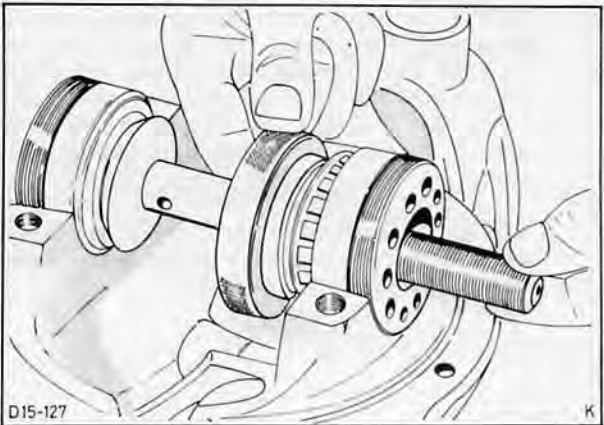

Fig. 118. Remove gauge bar
28. Remove master pinion and gauge bar, Fig. 118. Detach taper roller bearing with chosen shim from master pinion.